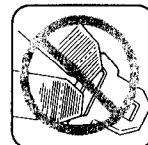

Figure 6.
- 3). LAP/SHOULDER BELT WITH SEWN LATCH PLATE (Fig. 6). OK to use.